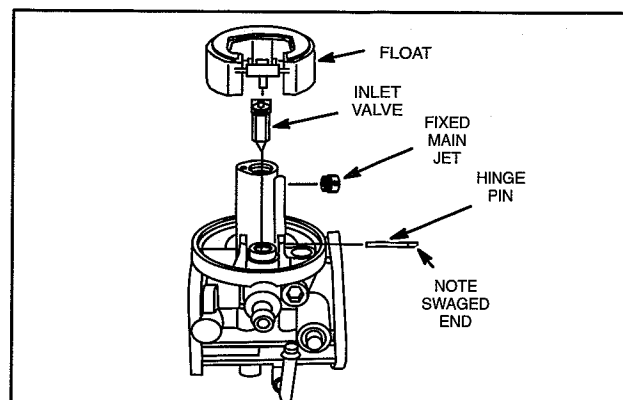

Fig. 26 – Removing Float
3. Remove float and inlet needle, Fig. 26.